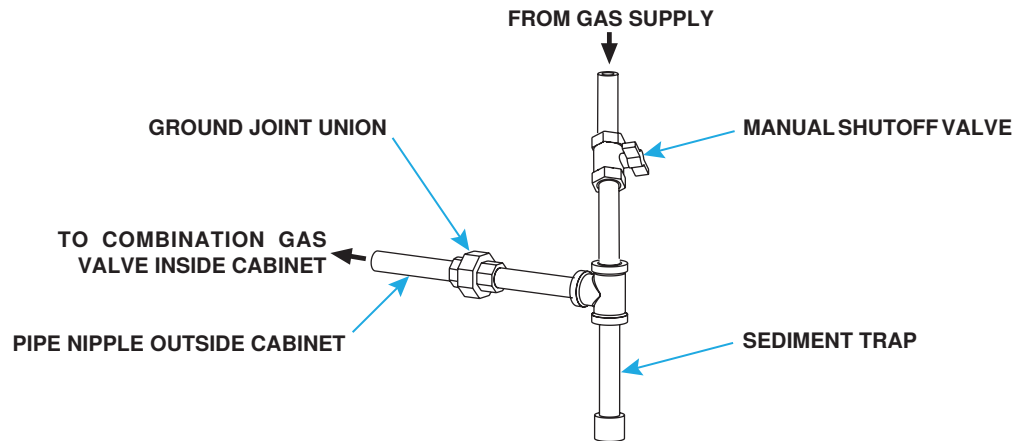

Figure 2. Gas Connections
- Install a ground joint union and manual shutoff valve upstream of the unit control system. The 1/8-inch plugged tapping in the shutoff valve provides connection for the supply line pressure test gauge. The *National Fuel Gas Code* requires the installation of a trap with a minimum 3-inch drip leg. Local codes may require a longer drip leg, typically 6-inch (see Figure 2).